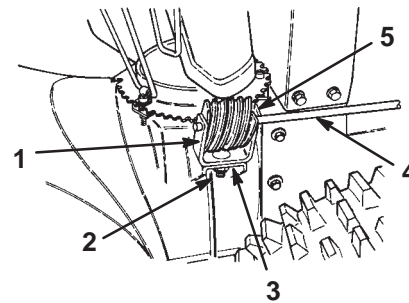

Figure 8
1. Insert the 1-inch (2.5 centimeters) carriage bolt into the mounting hole of the gear bracket (Fig. 8).
2. Position the worm gear into the bracket, align the holes, and insert the chute gear rod through the bracket and the gear (Fig. 8).
3. Loosely mount the worm gear and the bracket to the mounting flange with a carriage bolt, a flat washer, and a locknut (Fig. 8).